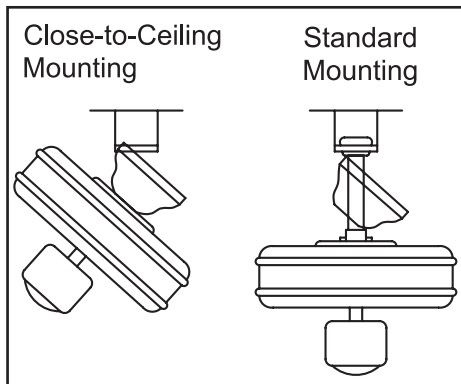

Figure 11
4. Carefully lift the assembly up to the ceiling mounting plate and hang the fan on the hook provided by utilizing one of the holes at the outer rim of the ceiling canopy (Figure 11). If using standard
mounting, seat the hanger ball in the mounting plate socket. Make sure the tab on the mounting plate socket is properly seated in the groove in the hanger ball (Figure 11).
THE HOOK AS SHOWN IN FIGURE 11 IS ONLY TO BALANCE FAN WHILE ATTACHING WIRING. FAILURE TO HANG AS SHOWN IN FIGURE 11 MAY RESULT IN HOOK BREAKING, CAUSING THE FAN TO FALL. HOOK MUST PASS FROM INSIDE TO OUTSIDE OF CANOPY.